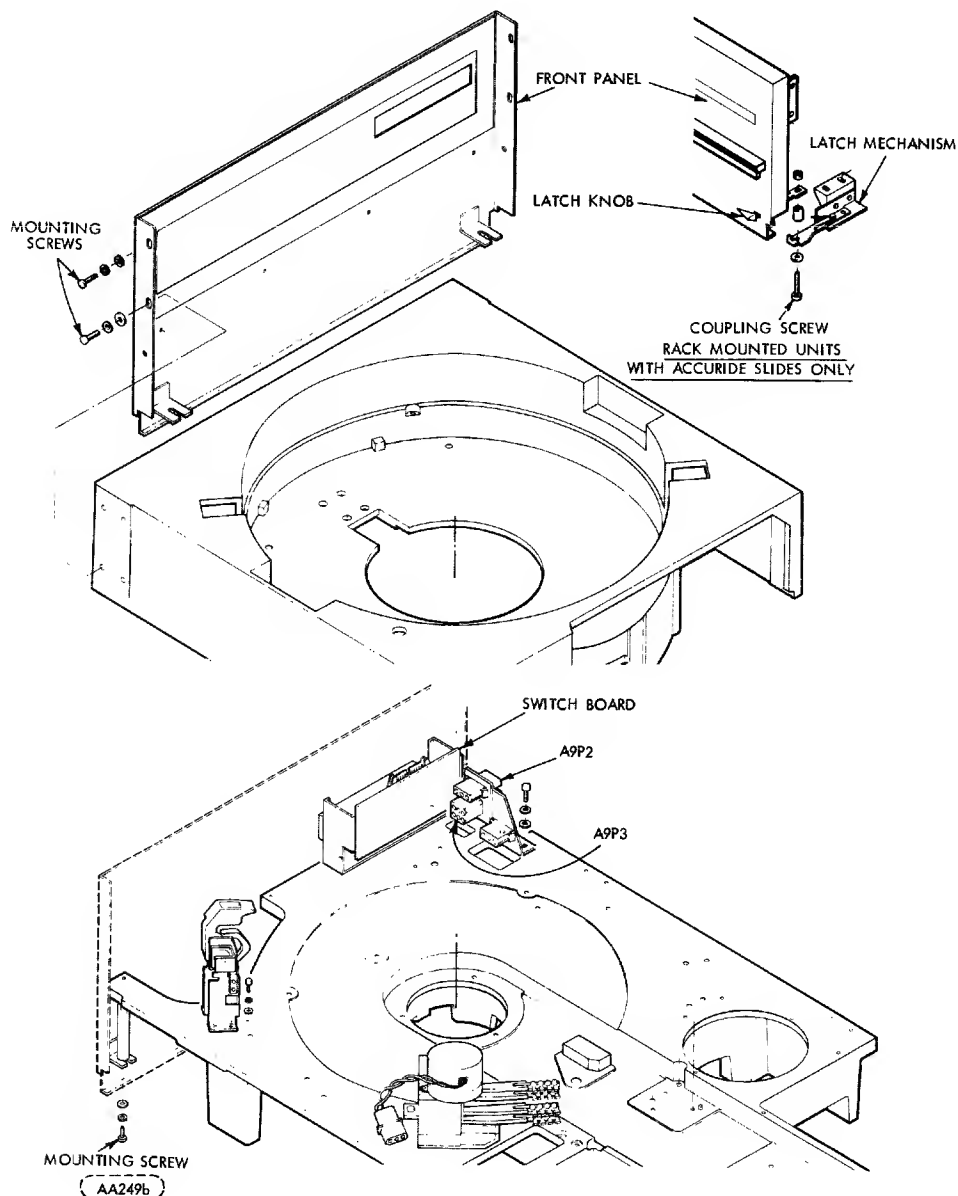

FIGURE 6-7. FRONT PANEL REMOVAL
7. On rack mounted units with Accuride slides, remove coupling screw securing latch knob to latch mechanism (see Figure 6-7).
9. Remove front panel by loosening two screws at bottom of panel and removing two screws on each side of panel (see Figure 6-7).
11. Lift the cartridge receiver up until connector A9P2 can be unplugged (see Figure 6-7). After A9P2 is unplugged further remove cartridge receiver.